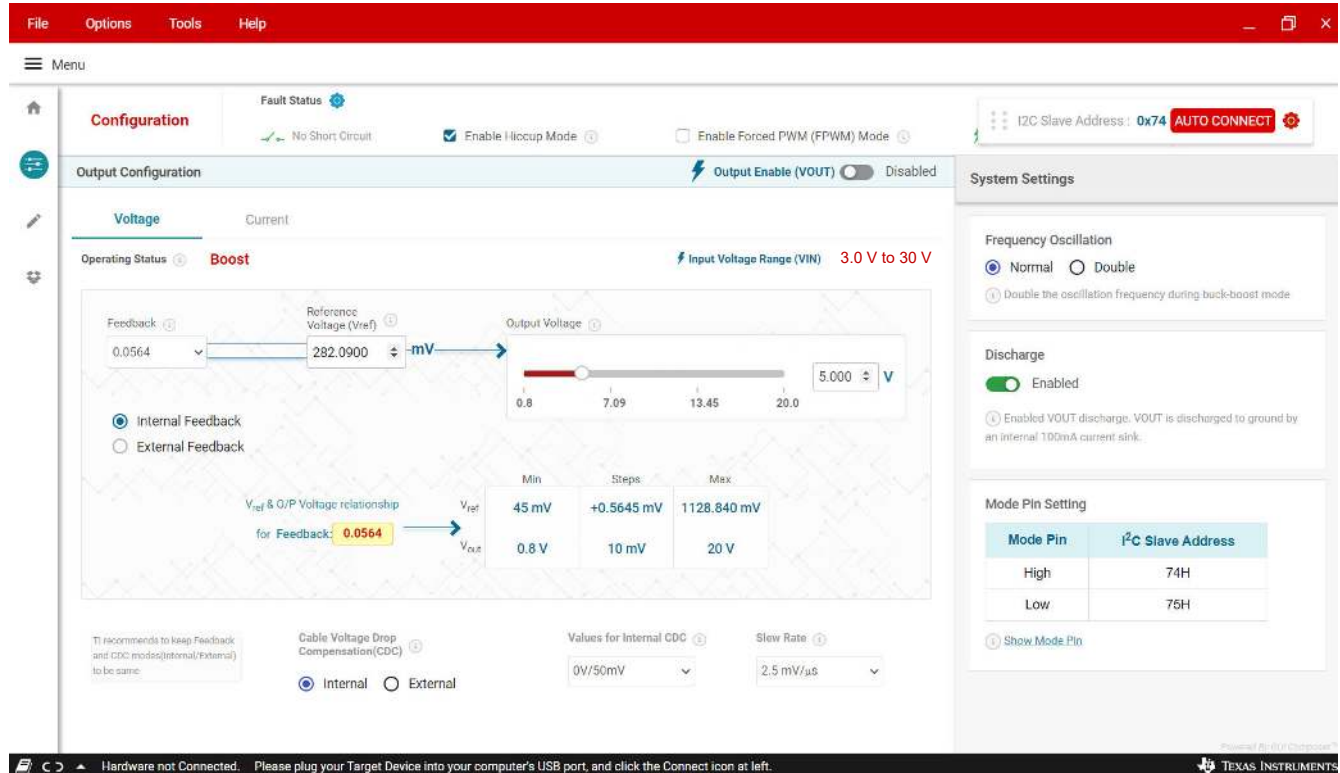

Figure 4-4. GUI User Interface of TPS55289EVM-093
4. Click the start button. It will show the GUI user interface of TPS55289EVM-093 (Figure 4-4).